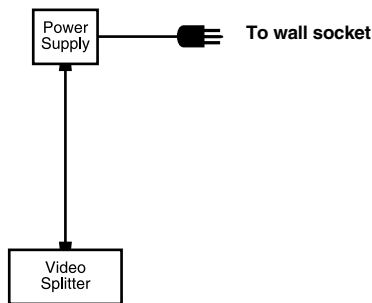

Figure 3-3. The power supply block diagram.
2. Connect the power cable to the 9-VAC adapter and insert the mains plug into a wall socket. The unit is connected to the power supply. See Figure 3-3.